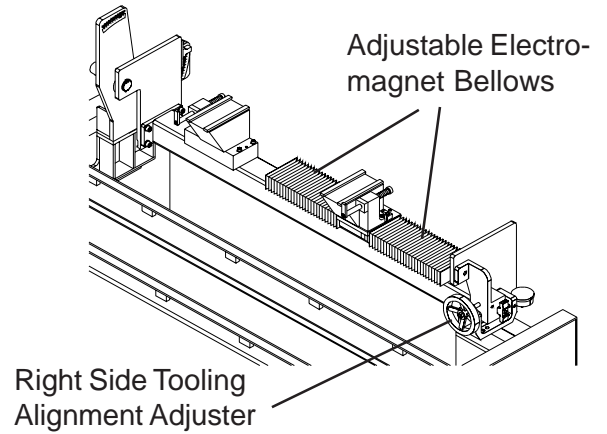

FIG. 14a
1. Lift the bellows located on adjustable electromagnet (see FIG 14a) and wipe off the bearing rail monthly. Every 3 to 6 months thoroughly clean the rail and flood spray with WD-40 or an equivalent lubricant. Run the adjustable electromagnet back and forth through its full range of travel. With a clean rag, wipe off the excess lubricant. Run the carriage back and forth and wipe the rail after each pass. Repeat until the rail feels dry.